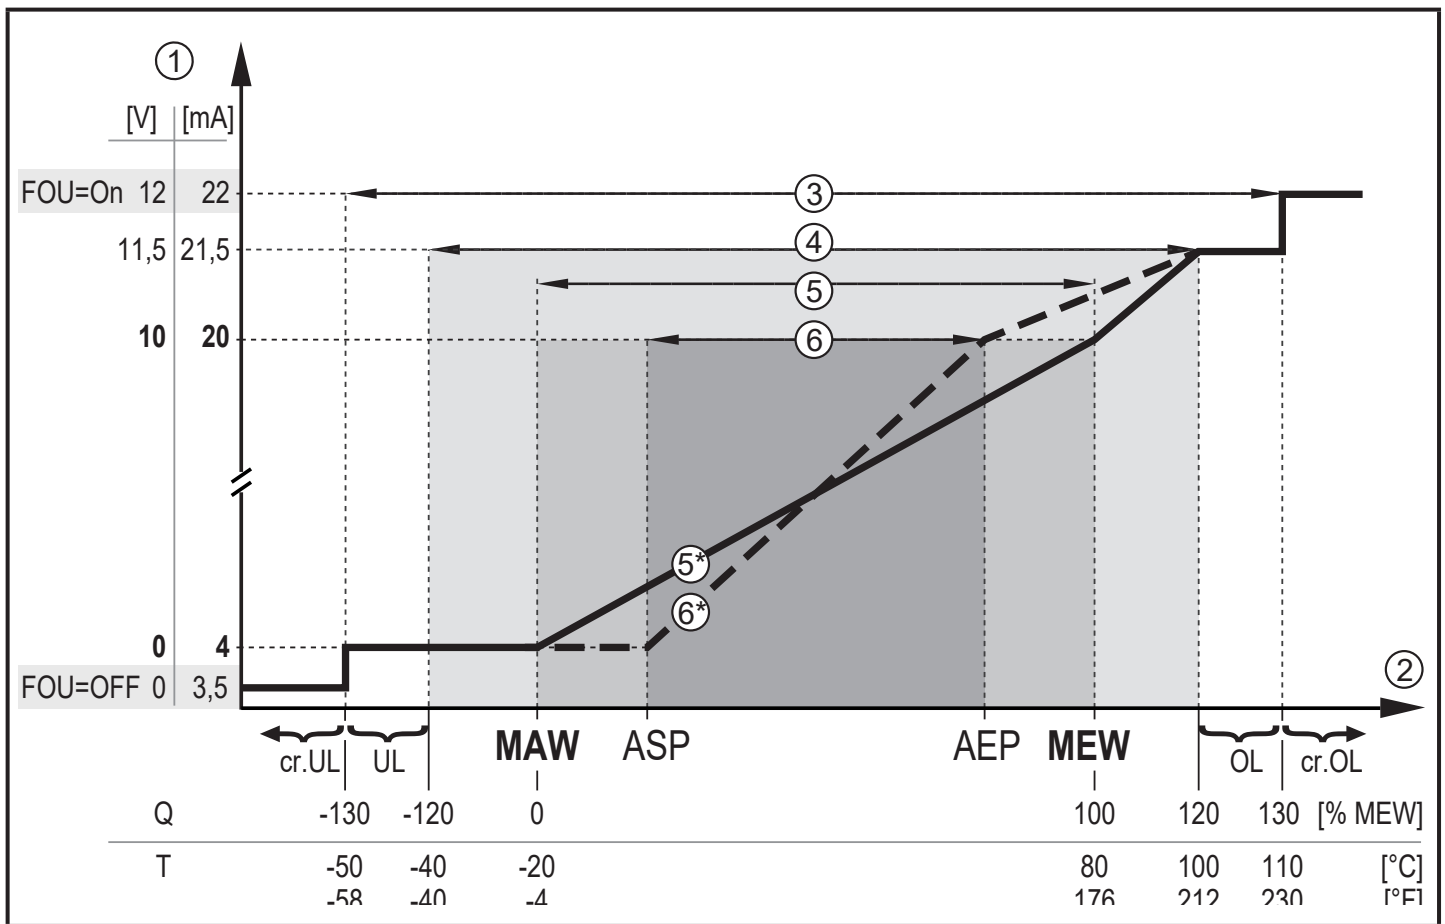

Figure 1: Characteristics of the analogue output according to the standard IEC 60947-5-7.
- If the measured value is outside the measuring range or in the event of an internal error, the current or voltage signals indicated in Figure 1 are provided.